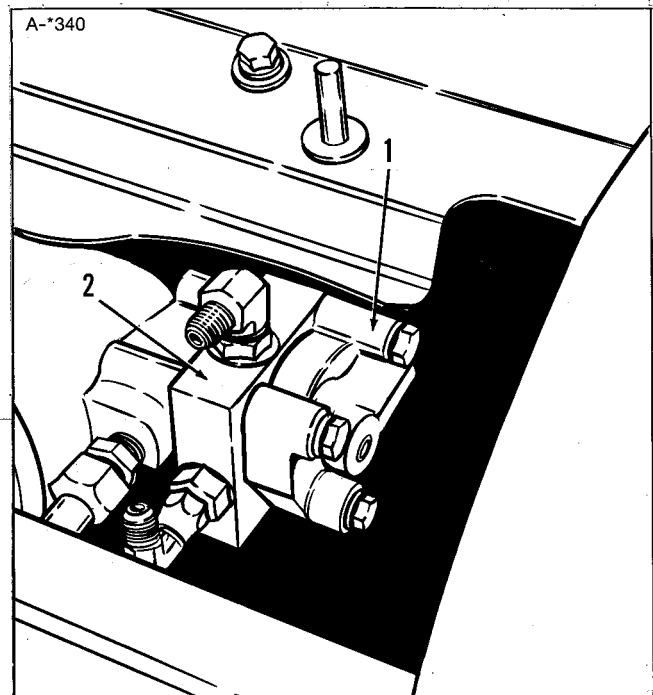

**Figure 1.**
2. Two holes must be drilled in plate (7, figure 1) located behind tractor seat in order to install hose clamps. (The right-hand clamps are item 2 in figure 1.) Refer to figure 2 to mark and drill holes.
3. Two holes must be drilled in the right-hand rear fender to install the valve (1, figure 1). First, remove the fender brace. Cut out the supplied template (on last page of these instructions). Align template with creases on fender and mark two spots. Drill two 17/64 inch holes.
6. Install valve to fender (figure 1) with hardware shown in figure 7 but do not install cover at this time. Re-install fender brace.